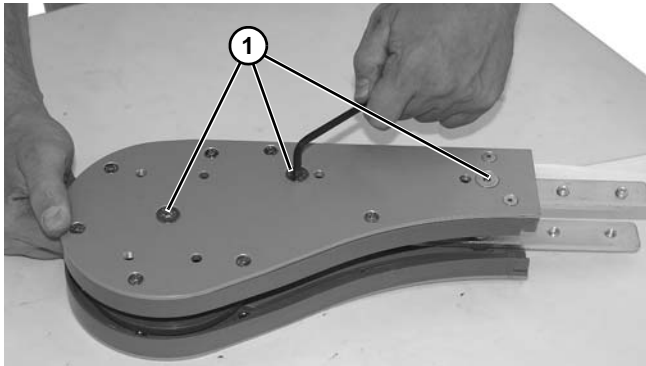

Figure 122
2. Remove three flat head screws (Figure 122, item 1).